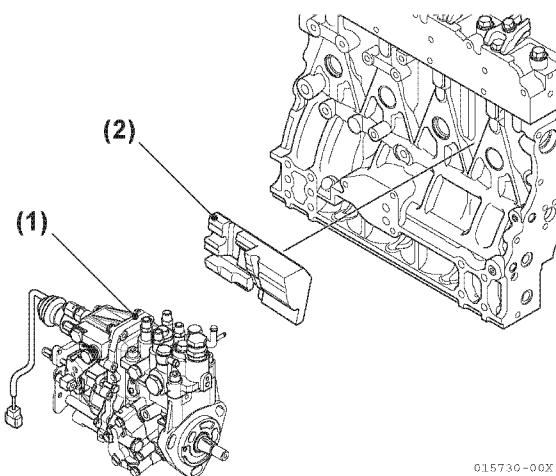
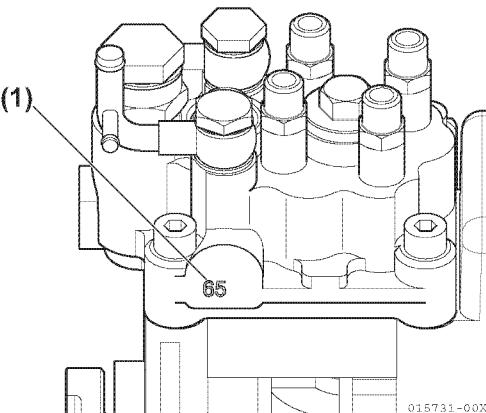

Figure 6-63
Figure 6-64
Note: It may be required that the intake manifold and fuel injection pump insulator (**Figure 6-63, (2)**) be removed to access the inner fuel injection pump (**Figure 6-63, (1)**) retaining nuts.
23. Remove the fuel injection pump (**Figure 6-63, (1)**). For purposes of future injection timing purposes, record the fuel injection pump timing index number located on the boss on the engine side (back) of the fuel injection pump (**Figure 6-64, (1)**). **NOTICE:** *Do not rotate the crankshaft while the injection pump is removed.*